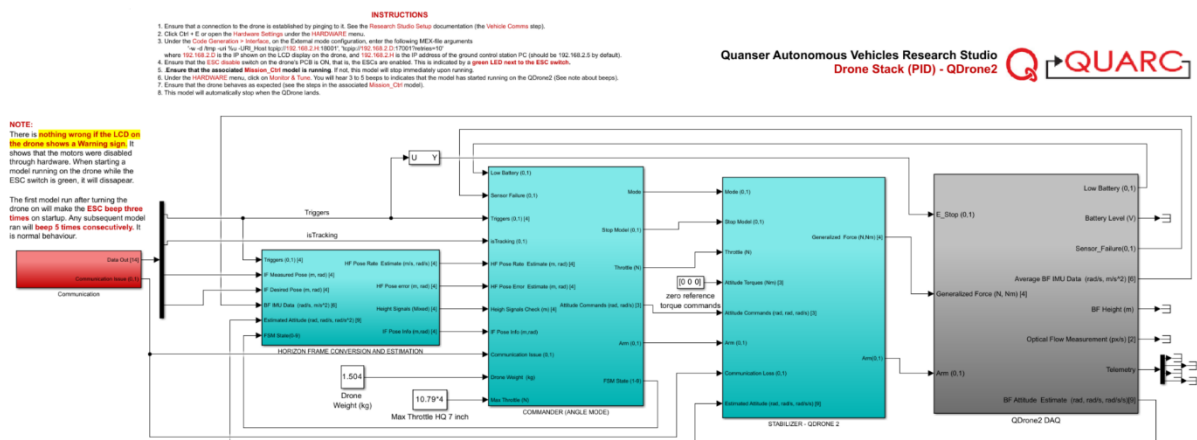

Figure 2. Drone Stack Model
3. From the same folder containing this file, open the folder QDrone 2 Hover Test, and open QD2\_DroneStack\_PID\_2021a.slx (Figure 2).